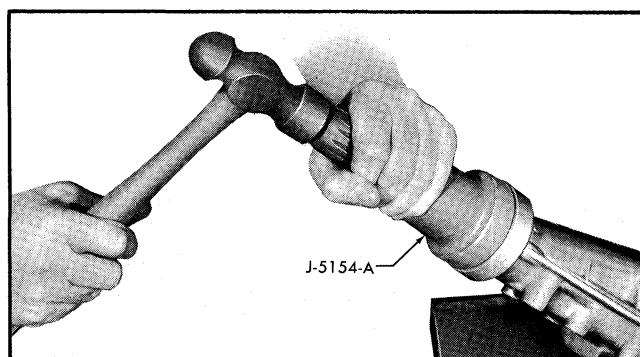

Fig. 7A-10 Installing Extension Oil Seal
4. Use punch or other suitable tool and loosen seal from extension and remove (Fig. 7A-9).